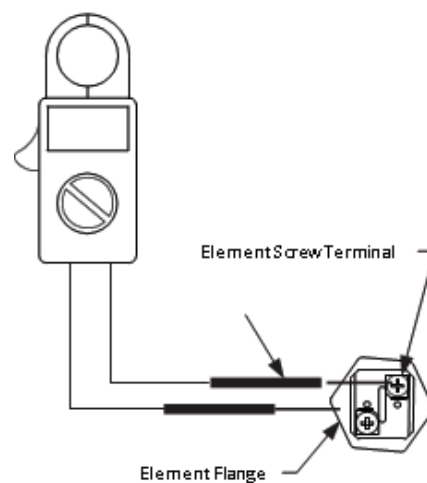

Figure 5
Step 5. Touch probes of the multi-meter to the screw terminal of heating element and the other on the element flange (see figure 5). There should be no reading on the ohm meter. Any reading indicates a grounded element and the element must be replaced. Repeat this step for the other screw terminal.